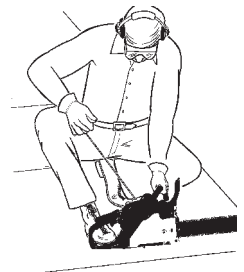

Fig. 8
8. Place saw on a firm flat surface. Hold saw firmly as shown. (Fig. 8)